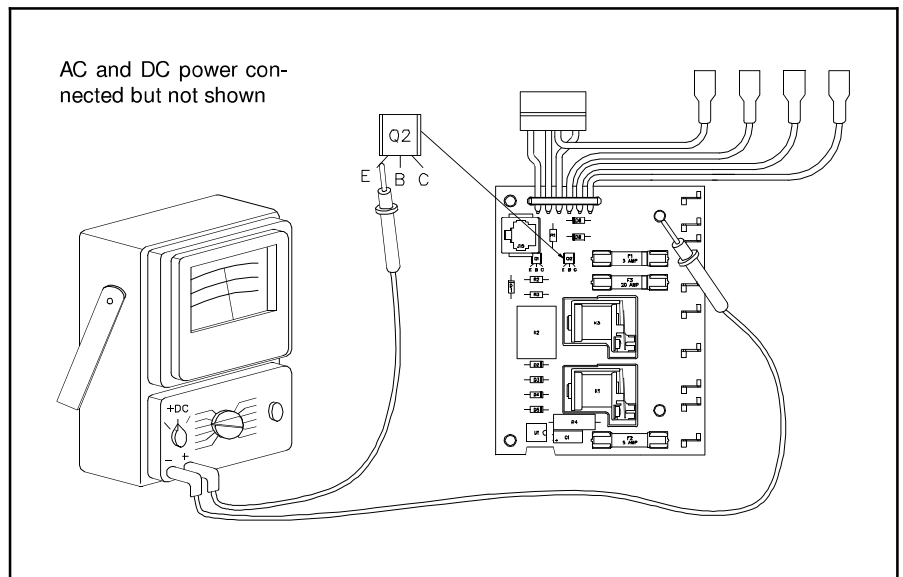

Figure 11.26 12 Volt Check at Q2 Emitter
11. With the volt-ohm-meter set to measure 12 volts DC, check for 12 volts at the emitter of transistor Q2 as shown in Figure 11.26.